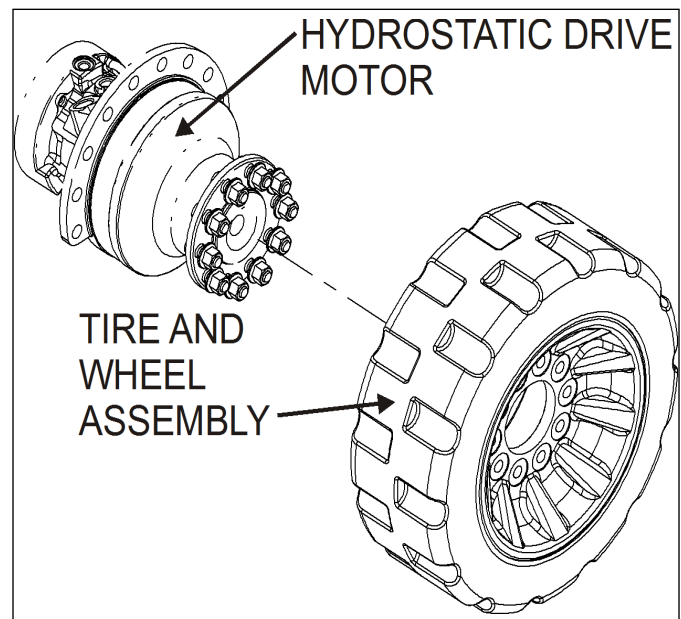

Figure 3-26: Removing Drive Wheel
6. Remove the 10 hex nuts and hardware. **Figure 3-26 on page 3-36.**